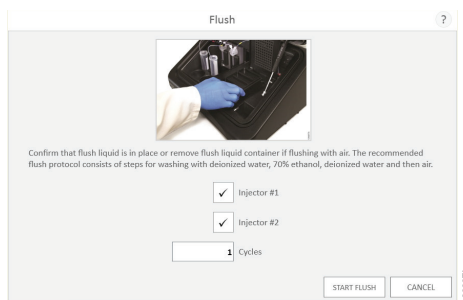

Figure 92. Injector Flush function.
4. Tap the **Start Flush** button (Figure 92).